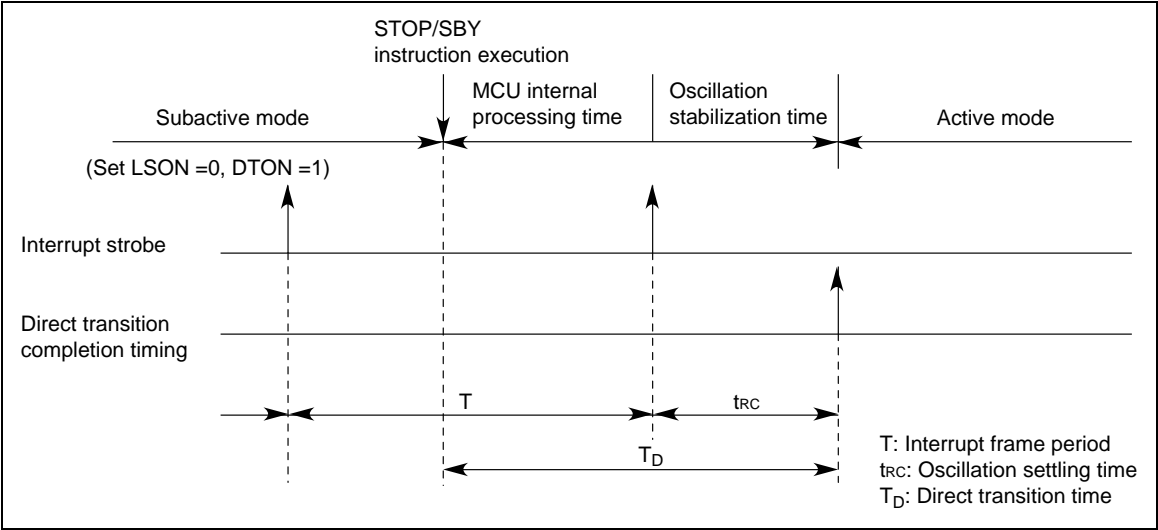

Figure 18 Direct Transition Timing
- (c) After the lapse of the MCU internal processing time and the oscillation settling time, the MCU automatically switches from subactive mode to active mode (figure 18).